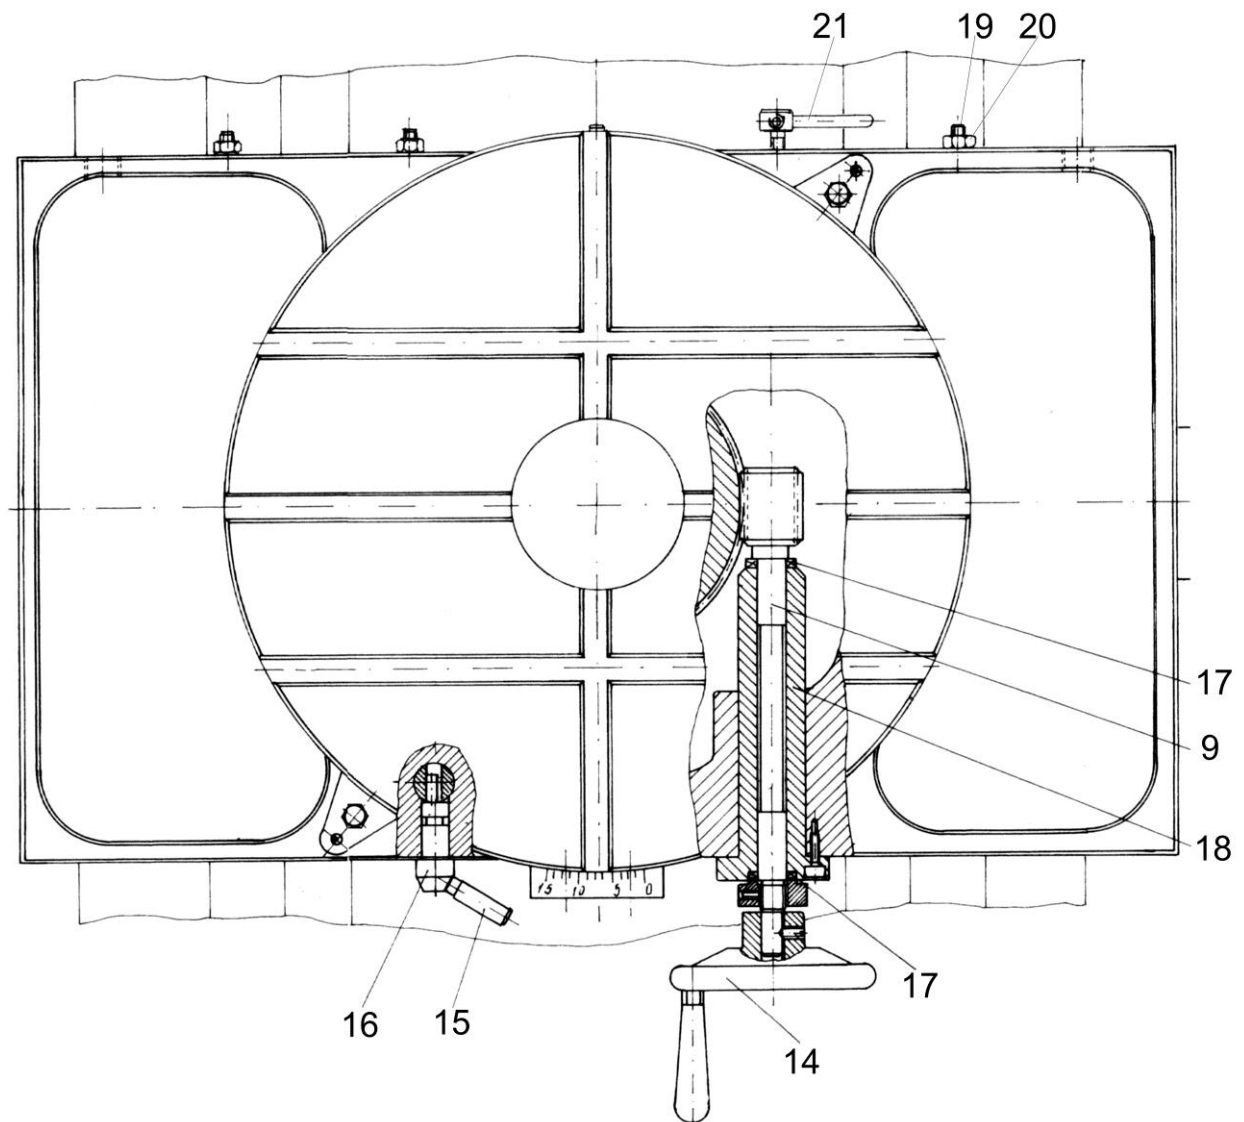

fig. 13
The workpiece is placed on the table – directly on the table surface, in a multifunctional holder, or otherwise. The rotating table itself, pos. 2 in fig. 13, is mounted on the longitudinal machine table, called rotating table support (pos. 1). It has a central opening where the special mounting flange, pos. 3, is inserted, with the wormgear 10 fitted on it. The flange is supported by two bearings in the base of the rotating table – the radial bearing 12 and the tapered roller bearing 11, through which the rotating table is tightly fastened to the face surface of the support by the nut 13. The wormgear and the table are driven by the worm drive 9 and the handle 14. On the lower surface of the rotating table there are 24 (at 15°) hardened conical couplings. When the table is rotated, they pass over the index finger 7, which enters the conical opening of the coupling and thus ensures precise positioning of the table (so called direct indexing). This allows fast and precise positioning (avoiding any plays of the dividing mechanism, with a tolerance of 0.02 mm of the position of the machined channel at a diameter of 400 mm) for machining of the most common slotted bushings, namely those with 2, 3, 4, 6, 8, 12 or 24 channels. The index finger is released by operating the cam 16 and the handle 15. When the handle is turned counter-clockwise, the cam retracts the index finger in its opening and allows the table to rotate.
After adjusting the longitudinal position of the table, block the longitudinal movement by operating the handle 21. The rotation is blocked by the two nuts 4 in fig. 13. Do not overtighten. In general, it is sufficient to tighten to a torque of 10 – 15 Nm.